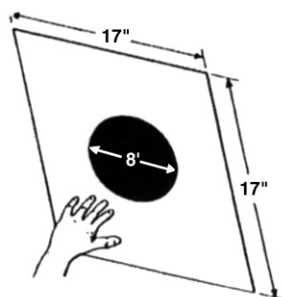

Figure 1: Template Placement
*This template is designed to assist you in making the proper size opening of 17" square. Holding the template to the wall with one hand, mark around the edges that outline the new wall opening. (See Figure 1).*